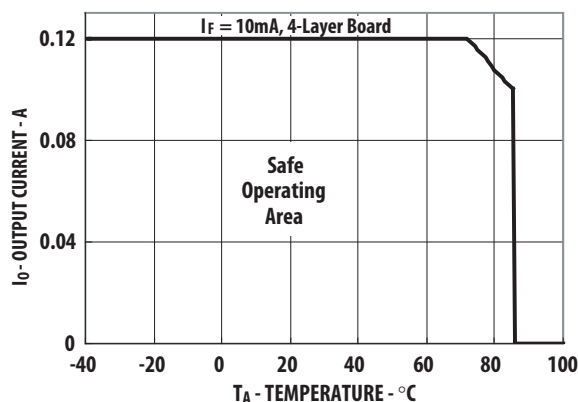

Figure 1. Maximum Output Current Rating vs Ambient Temperature (ASSR-4110-003E)
- For derating, refer to Figure 1, 2, 3 and 4.